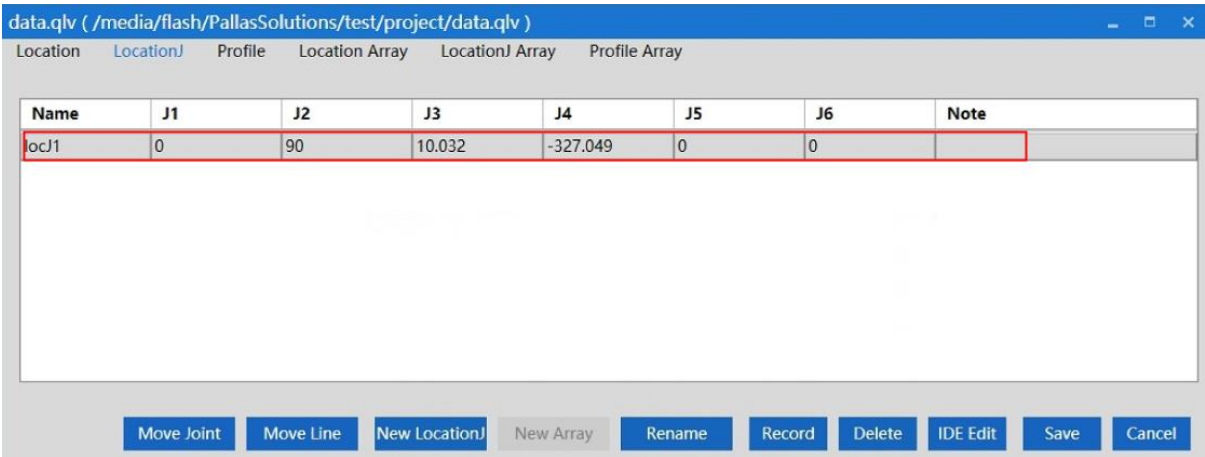

Figure 6-34 New LocationJ
**Step 2** New LocationJ; Click "New Location" in "LocationJ", and the point information of the current robot' s axis coordinate position will appear in the interface. The point name is the default name, and you can click Rename to modify it, as shown in Figure 6-34.